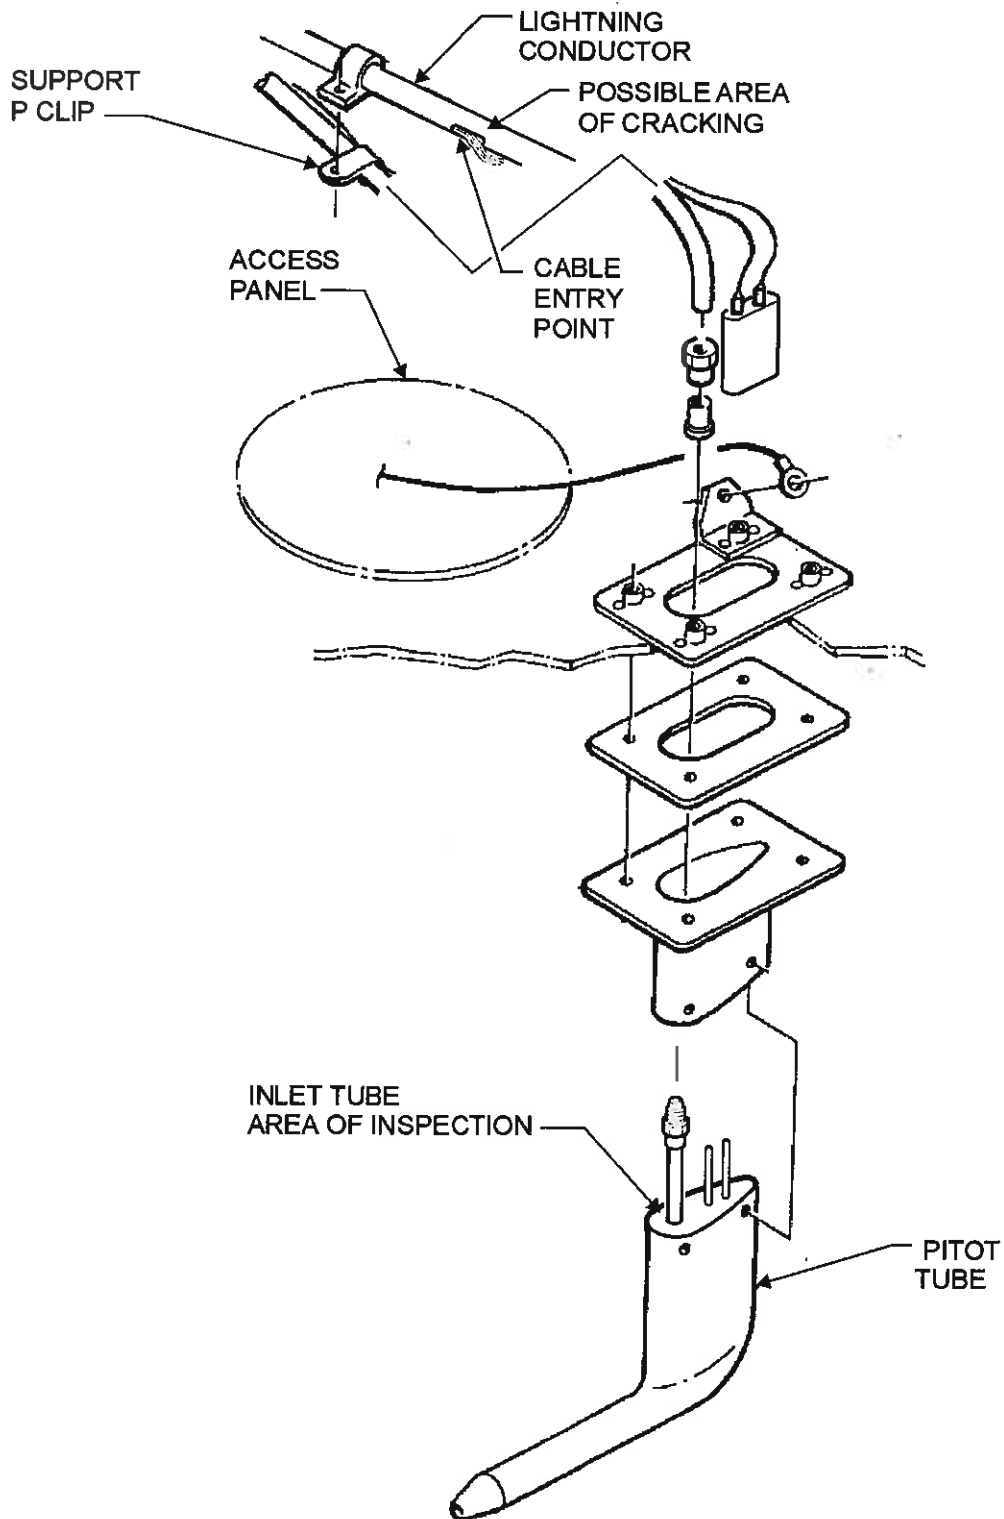

Figure 1 Pitot Tube Installation
3. Perform visual check for cracks in the inlet tube of the pitot in the area shown in Figure 1.
8. Ensure pipe is properly supported (ref P-clip, Figure 1), and care is to be taken that inlet pipe is not stressed during installation and future maintenance. Note to this effect will be added to Maintenance Manual together with removal and installation procedure.